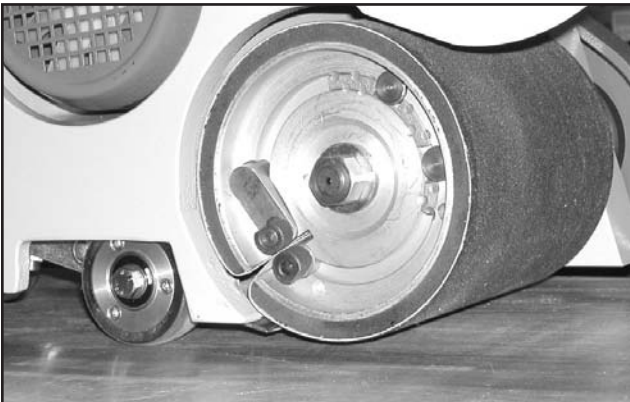

Fig. 18
- Raise the lid covering the drum (fig. 18).